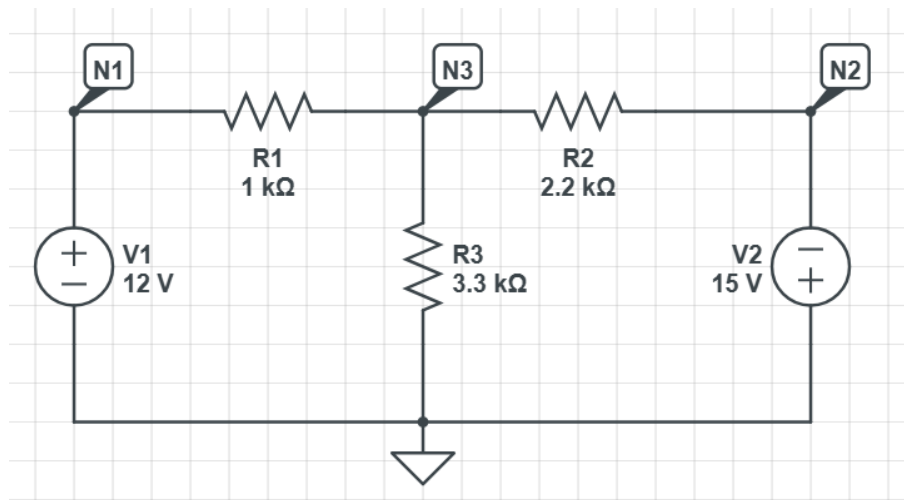

Figure 4.4.1: Both Sources are activated
1. Connect the circuit as shown in Fig. 4.4.1.